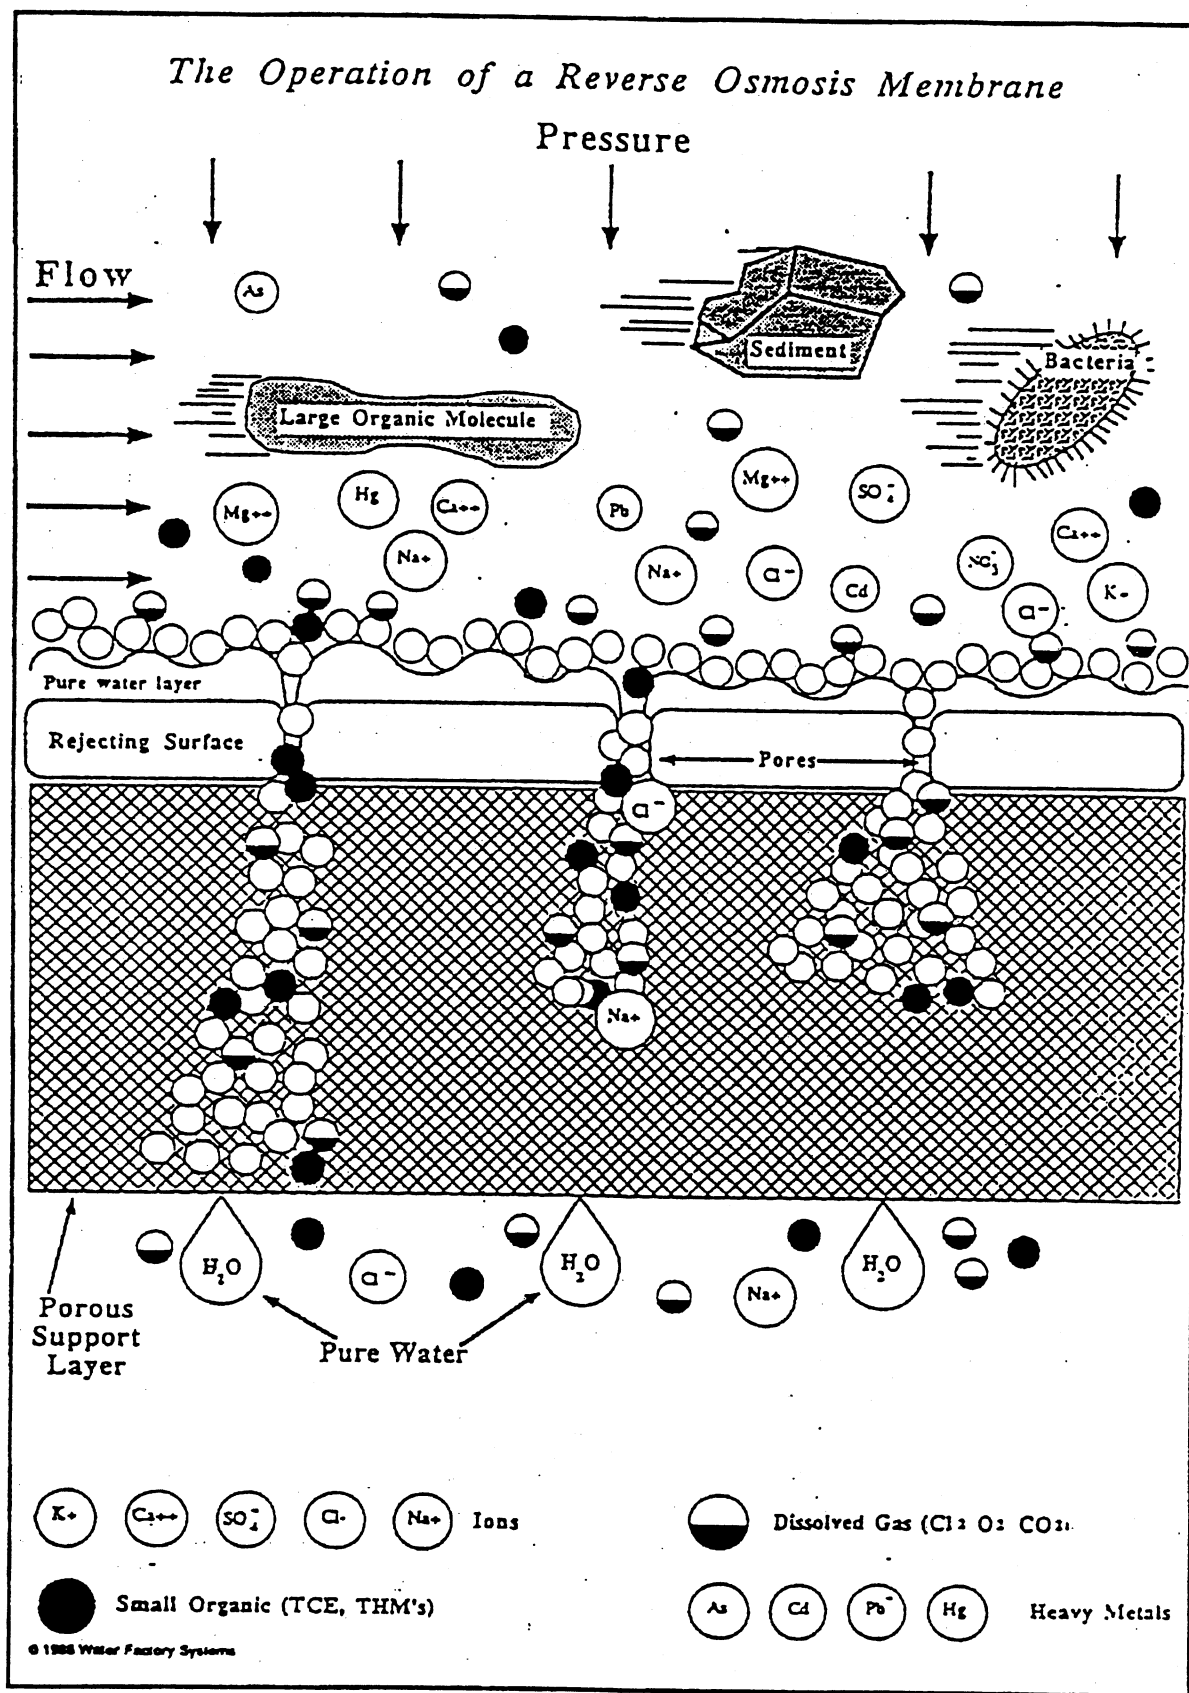

Figure 4-1: The operation of an RO membrane (Water Factory Systems 1991)
Reverse osmosis (RO) is similar to the osmosis process referred to in chapter one. Reverse osmosis uses the semi-permeable membrane like the osmosis process, but reverse osmosis relies on a superior pressure applied to one side of the membrane. Water molecules are attracted to this membrane and the molecules of water work their way through to the other side. Other ions (like salt) are repelled from the membrane. See Figure 4-1.
As the water contacts the membrane, the contaminants and/or minerals are left on the membrane and must be washed away by water flowing past the membrane on the incoming side. See Figure 4-1. It seems like the RO system cleans itself, but many times the water entering an RO system must be pretreated in order for the RO system to work properly. Fouling (or the build up of impurities on the membrane) can be caused by sediment deposits, silt deposits, iron, manganese, organics, or biological contaminant growth.